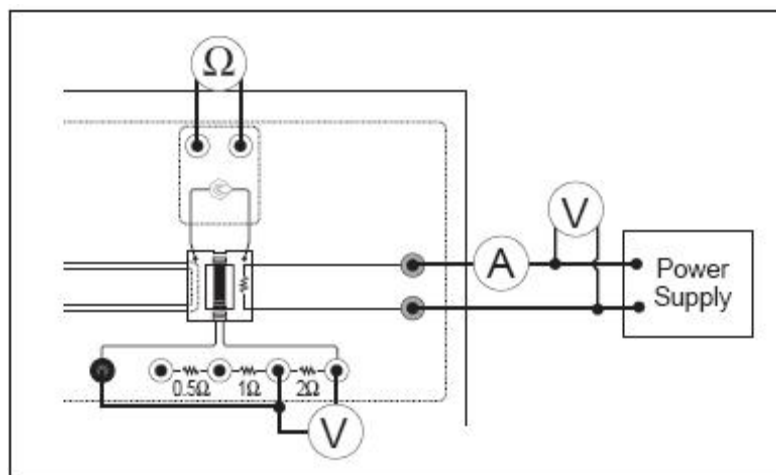

Figure 21B.1
- B. Connect the 2Ω load resistor with a short patch cord as shown in Figure 21B.1. Connect a voltmeter across the load resistor.